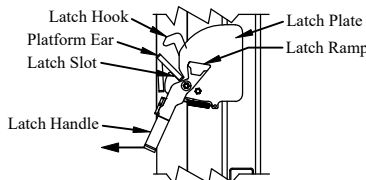

Figure 4: Step 6.
- Step 6. Move the latch handle away from the truck to disengage the latch hook. With the other hand, push up on the control toggle switch to raise the platform ear out of the latch plate (Figure 4).